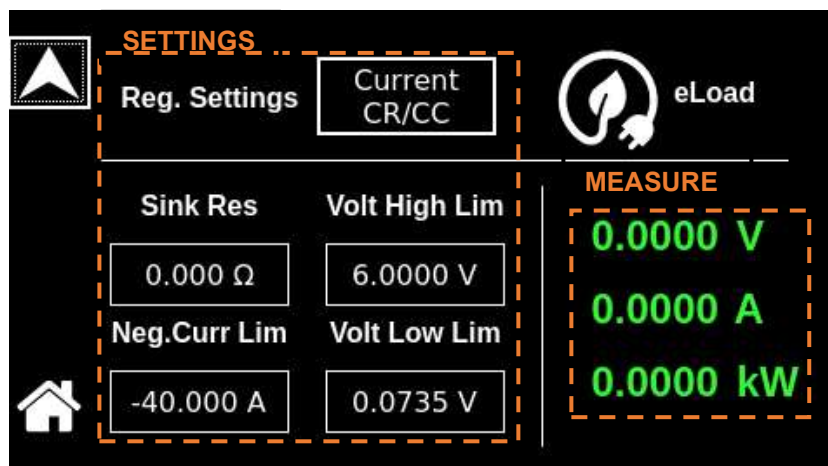

**Figure 10-15. Dashboard Screen in CR/CV Regulation setting**
a) **Voltage – CR/CC** is shown in Figure 10-15,